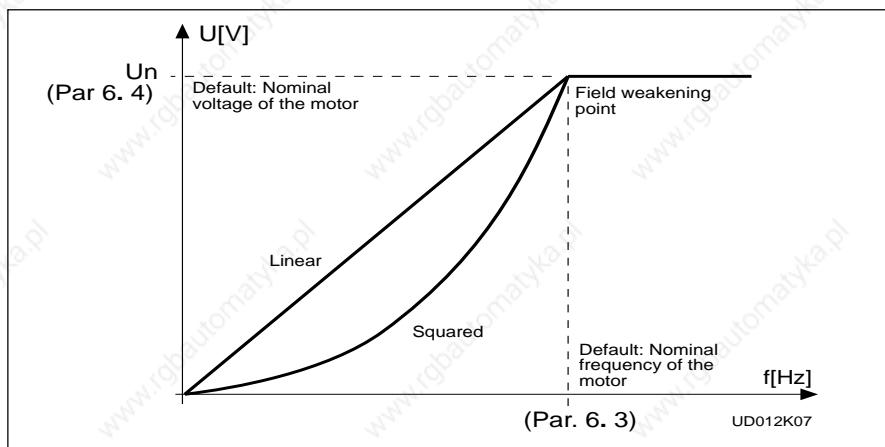

Figure 3.4-1 Linear and squared U/f curves.
**Linear:** The voltage of the motor changes linearly with the frequency in the constant flux area from 0 Hz to the field weakening point (par. 6. 3) where the nominal voltage is also supplied to the motor. See figure 3.4-1.
**Squared:** The voltage of the motor changes following a squared curve form with the frequency in the area from 0 Hz to the field weakening point (par. 6. 3) where the nominal voltage is also supplied to the motor. See figure 3.4-1.